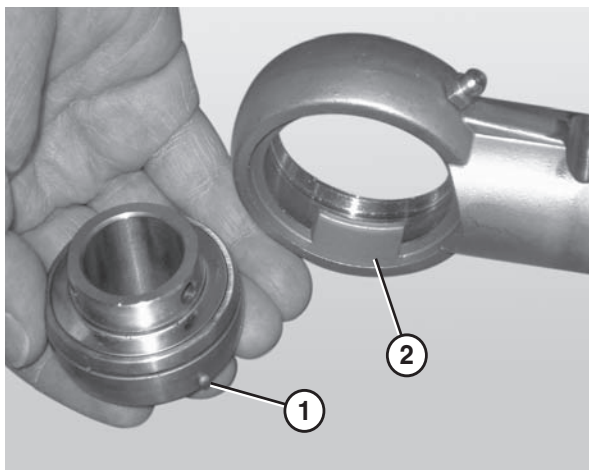

Figure 92
4. Remove the worn or damaged bearing (**Figure 92**).
When inserting the new bearing, make sure the anti-rotation notch (Figure 92, item 1) on the bearing lines up with the groove inside the housing (Figure 92, item 2).